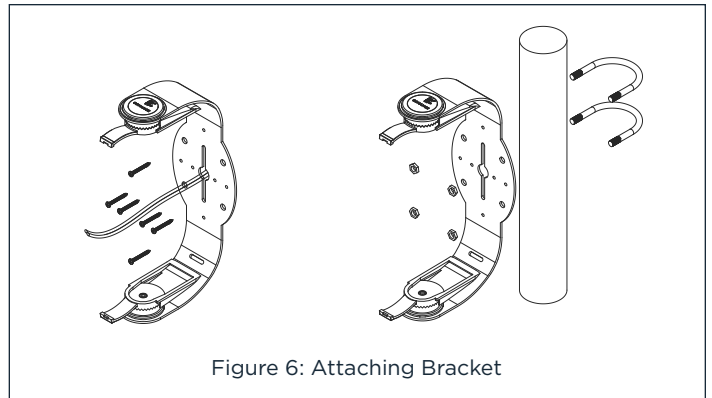

Figure 6: Attaching Bracket
1. In most cases you will be able to attach the FastMount brackets directly to the mounting surface. Run the speaker wires from the amplifier to the speaker locations and through the holes in the brackets (see Figure 6).
3. If the installation requires that the speaker be mounted on a pole you can attach the FastMount brackets to the pole using 2.5" U-bolts (not included) (see Figure 6).